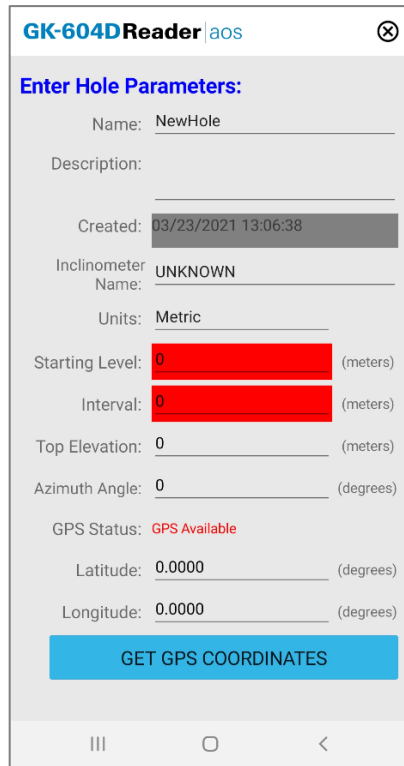

Figure 9: Hole Editor Screen
- ➕ To create a new “hole”, tap the circular “+” icon which displays the Hole Editor screen (see Figure 9)